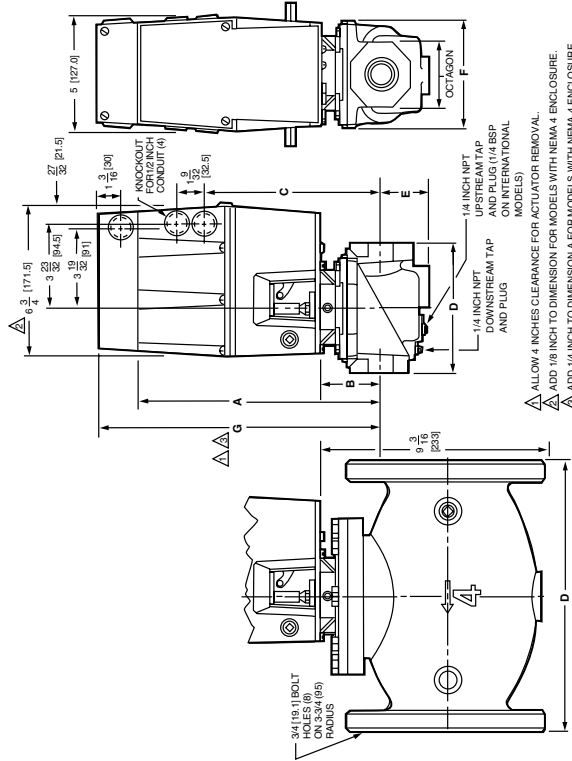

Fig. 1. V9055/V5055 dimensions in in. (mm).
**Installation Dimensions:** See Fig. 1.